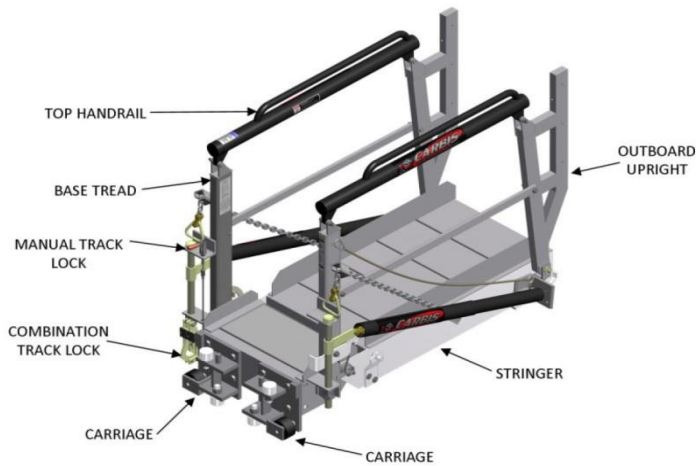
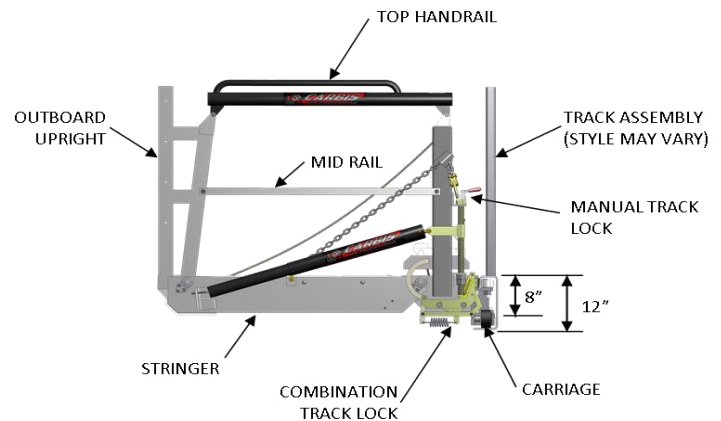

FIGURE 2-4
FIGURE 2-5
c) **OPTIONAL TCG TRACK AND CARRIAGE WITH TCG-S910.1 TRACK LOCK MECHANISM (SEE FIGURE 2-4 AND FIGURE 2-5)**